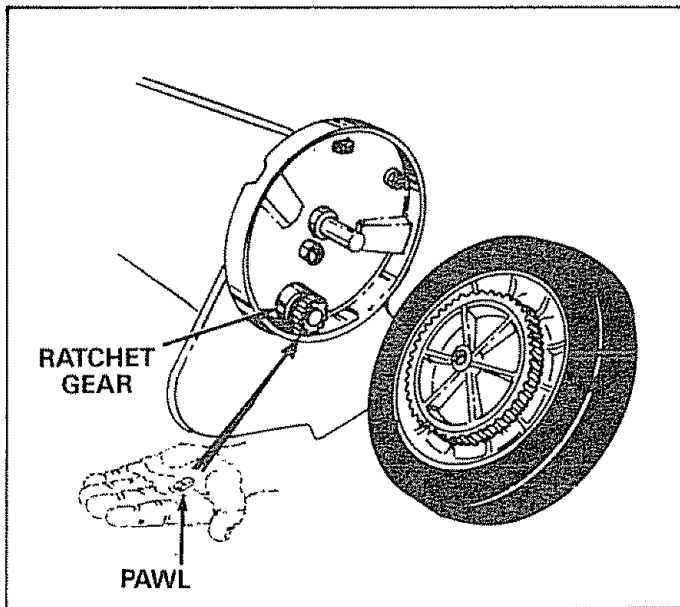

FIGURE 32
2. The pawl, inside ratchet gear, has a curved end (side) and a flat end (side). See figure 32. When re-assembling ratchet gear and pawl, fill the inside with grease. Re-assemble the wheel and turn wheel, if the brushes drive (rotate) in both directions, the pawl is assembled incorrectly, remove and flip pawl over. If the brushes drive (rotate) in one direction the pawl is assembled correctly.